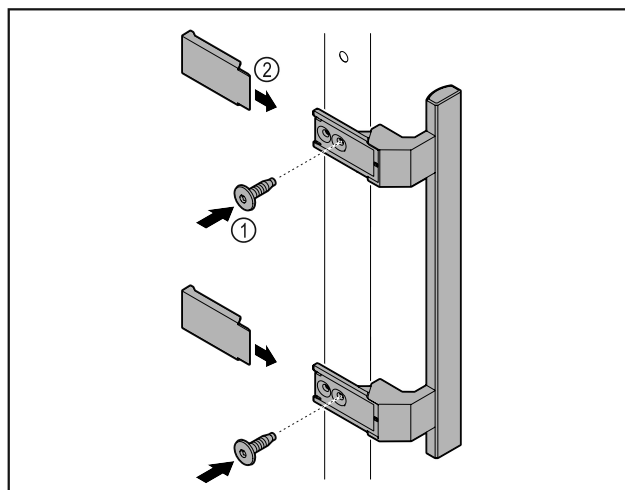

Fig. 42
- Attach handle from accessory kit to the door using the screws Fig. 42 (1) supplied.
- Put on cover Fig. 42 (2).